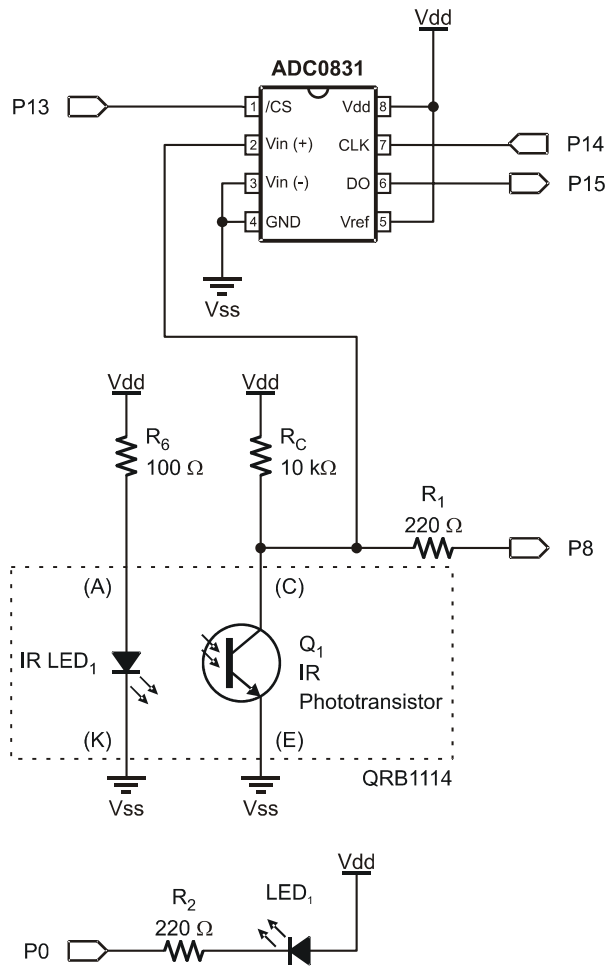
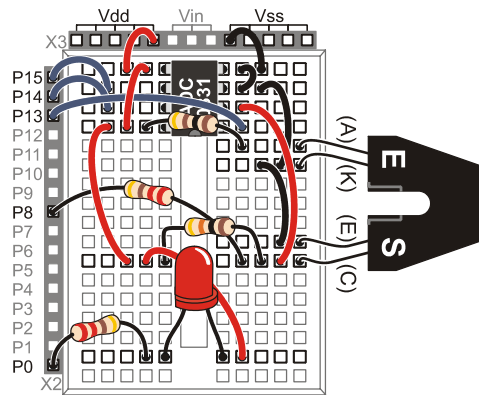

Figure 4-2
Figure 4-3
- (1) LED – Red
- ✓ Construct the circuit shown by the schematic in Figure 4-2 and the wiring diagram in Figure 4-3. Note that Q_1 and the IR LED are both inside the QRB1114. Set aside the 100 k Ω and 1 M Ω resistors for now.